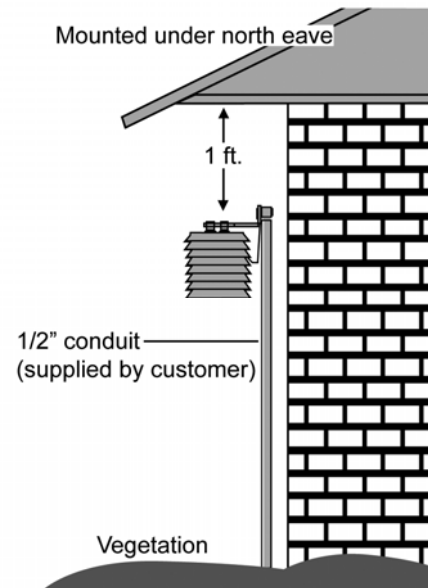

Figure 2: Located on the North Eave
- An ideal location is under a north eave or on a northern exposure away from direct sunlight, as shown in **Figure 2**. In these cases, the quick-connect cable is not used. Four-conductor, 22-AWG, shielded cable must be pulled from the display to the temperature sensor location. Route the cable through conduit when exposed to outdoor conditions. The maximum length of the cable should be no more than 500 feet.